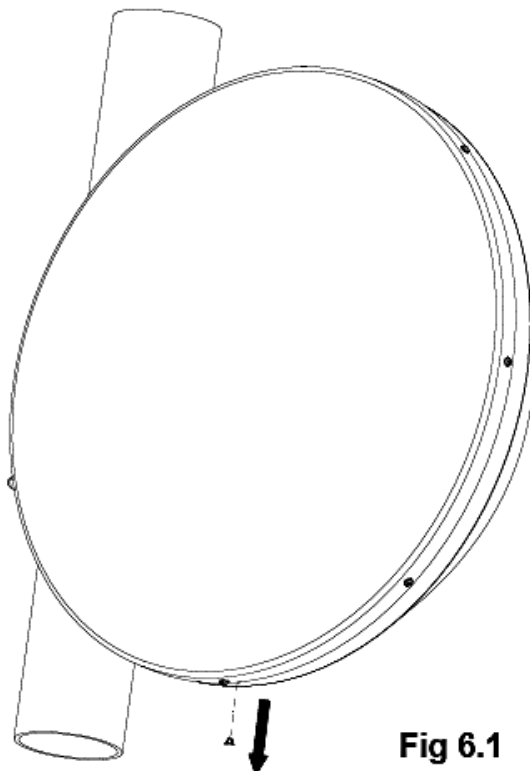

**Fig 5.3**
①Bolt M10    ②Elevation Adjustor
Make coarse elevation adjustment (shown in Fig 5.3): loosen the bolts (No.5). Use ① & ④ thread holes, antenna can make elevation adjustment from +5° to +25°. Use ② & ③ thread holes, antenna can make elevation adjustment from -5° to -25°. Tighten all the standard parts after the adjustment is done.